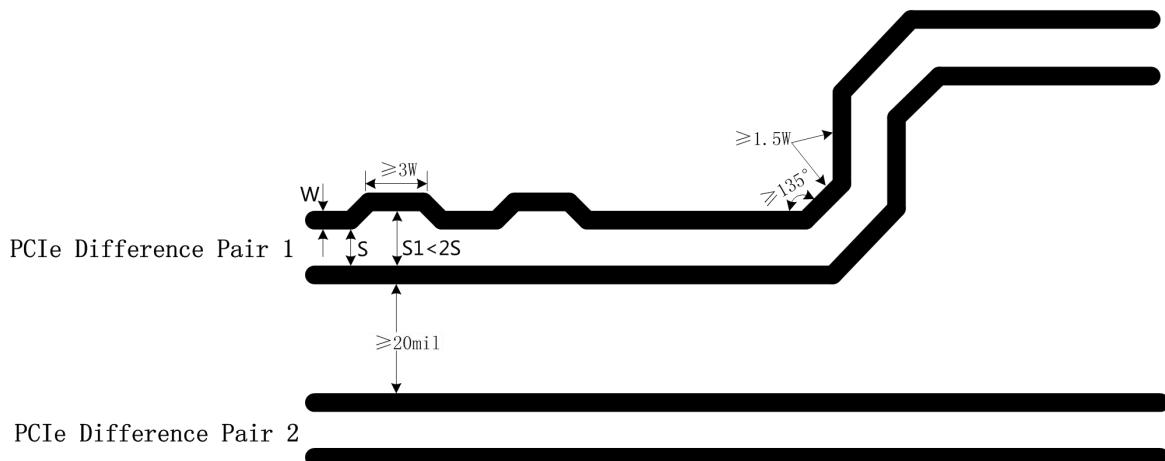

Figure 3-10 Requirement of PCIe Line
- Try to avoid bended lines and avoid introducing common-mode noise in the system, which will influence the signal integrity and EMI of difference pair. As shown in Figure 3-10, the bending angle of all lines should be equal or greater than 135°, the spacing between difference pair lines should be larger than 20mil, and the line caused by bending should be greater than 1.5 times line width at least. When a serpentine line is used for length match with another line, the bended length of each segment shall be at least 3 times the line width ( $\geq 3W$ ). The largest spacing between the bended part of the serpentine line and another one of the differential lines must be less than 2 times the spacing of normal differential lines ( $S1 < 2S$ );